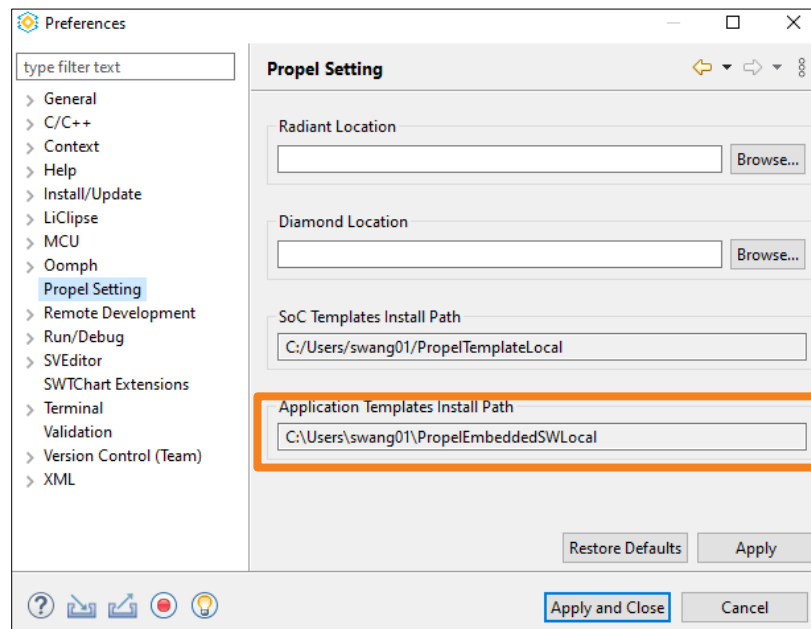

Figure 3.11. Lattice Propel Setting Page
6. With this zip archive file, extract it to the **Application Templates Install Path** in the user's environment. Select **Window > Preferences > Propel Setting** to find this setting (Figure 3.11).